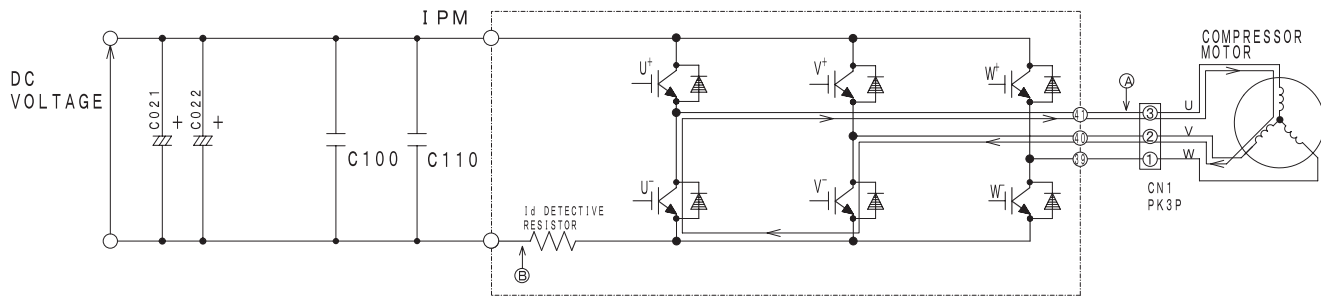

Fig. 4-4 Power module circuit (U+ is OFF, V- is ON)
At point ⑥: U+ is chopped (OFF), V- is ON (circuit in Fig. 4-4)
- (2) When U+ transistor is OFF: (by inductance of motor coil) U coil → V coil → V- transistor → U- diode → Point ⑤ (Fig. 4-4)